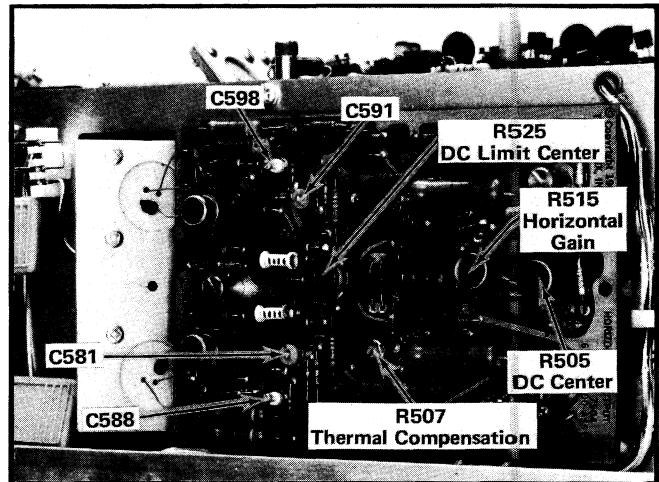

Fig. 5-8. Location of adjustments on the Horizontal board.
h. ADJUST—Horizontal gain control R515 (see Fig. 5-8) for exactly eight centimeters total spacing between the traces corresponding to the center eight divisions on the graticule. Use the B HORIZ Position control as necessary.
e. ADJUST—R507 (see Fig. 5-8) for minimum horizontal shift as each horizontal sweep occurs.
j. ADJUST—R507 (see Fig. 5-8) for minimum jitter of the markers being displayed on the A HORIZ sweep.
- ADJUST—C581 and C591 (see Fig. 5-8) for one marker every two division (use low-capacitance screwdriver). Adjust these capacitors a little at a time, trying to maintain equal capacitances.
k. ADJUST—C598 and C588 (see Fig. 5-8) for one marker every two divisions while maintaining the best linearity. Position the display back and forth and check linearity over the entire sweep while making these adjustments.